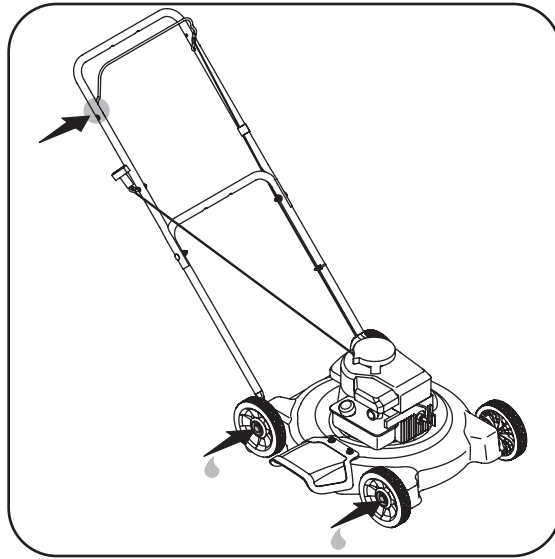

Figure 5-1: Lubrication areas on the mower.
- Lubricate pivot points on the blade control at least once a season with light oil. The blade control must operate freely in both directions. See Figure 5-1.
- Lubricate the wheels at least once a season with light oil (or motor oil). If wheels are removed for any reason, lubricate surface of the axle bolt and inner surface of the wheel with light oil. See Figure 5-1.